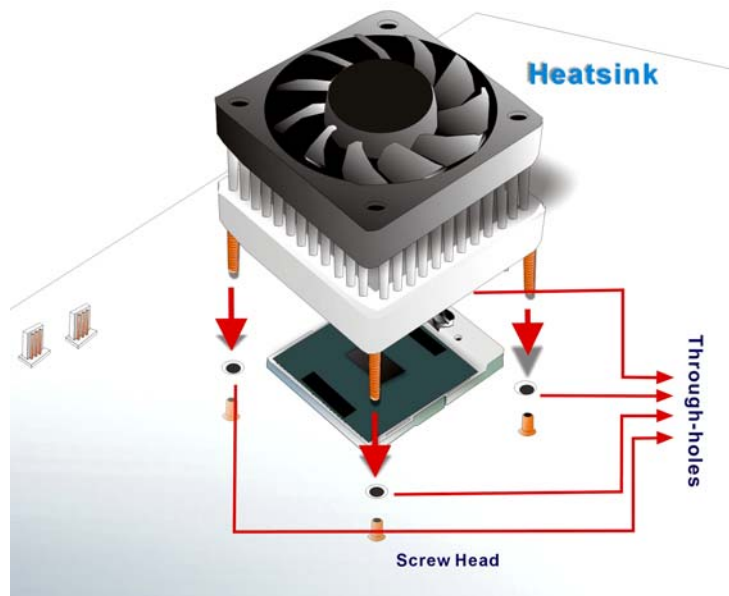

Figure 4-4: Securing the Cooling Kit
- Step 3:** **Secure the cooling kit.** From the solder side of the PCB, align the provided nut caps to the heat sink screw threads that protrude through the PCB holes. Without over tightening the nut caps, insert them onto the protruding screw threads to secure the cooling kit to the PCB board. (See **Figure 4-4**)